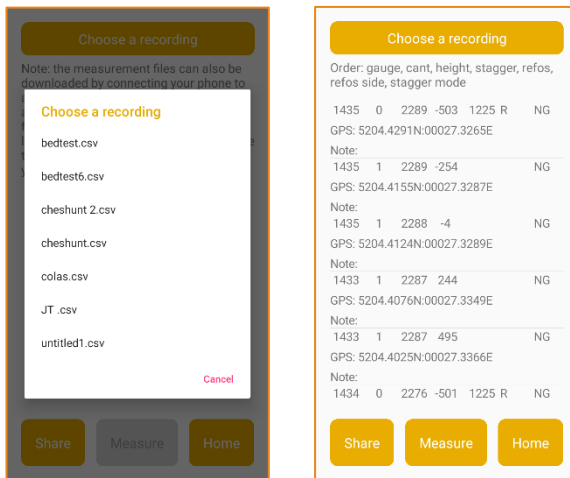

Figure 13 – Recorded file
- ii. A new page with all the fields filled as per the settings will appear. Ensure the recipient details are correct and then press the **'Send'** button (circled in Figure 13).
- e. Pressing **'Measure'** will direct the user to the recording screen where additional recordings can be appended to the chosen file (Figure 13).